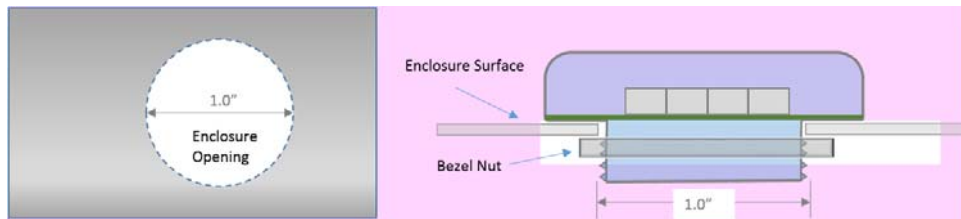

Figure 3: Mounting Dimensions
4. Connect the CTs to the Interface Board observing the polarity of the CT wires as well as the proper orientation of the CT on the conductor. The indicator marker on the CT shall always face the source of the current. Refer to figure 3 below as well as the Packet Power current transformer data sheet for detailed information. Failure to observe the correct polarity will result in negative or incorrect current readings.